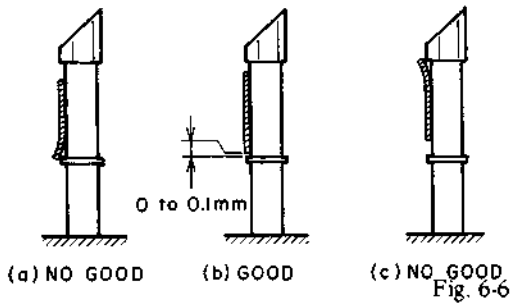

Fig. 6-6
- 2) Turn the CUE/REVIEW GUIDE height adjustment Nut ③ so that the wrinkle between the PINCH ROLLER and the CUE/REVIEW GUIDE are not existed.
- 3) Depress the REV button (REVIEW mode) confirm the curl at the tape down edge is not existed at the TAPE GUIDE as shown in Fig. 6-6. (Fig. 6-6 (c) is not acceptable, but Fig. 6-6 (b) is acceptable)